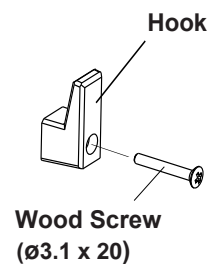

Fig.3-25 Installation of Hook for Hand exposure Switch
6. Place the hook on the wall and attach it with the wood screw (ø3.1 x 20mm). (Fig.3-25)